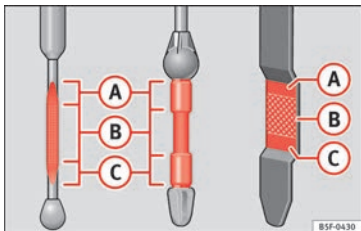

Fig. 248 Engine oil dipstick.
- Then pull it out once more and check the oil level » **Fig. 248**. Top up with engine oil if necessary.
If the oil level is above area » Fig. 248 (A), do not start the engine. This could result in damage to the engine and catalytic converter. Contact a specialised workshop.
The oil level must never be above area » Fig. 248 (A). Otherwise oil can be drawn in through the crankcase breather and escape into the atmosphere via the exhaust system.